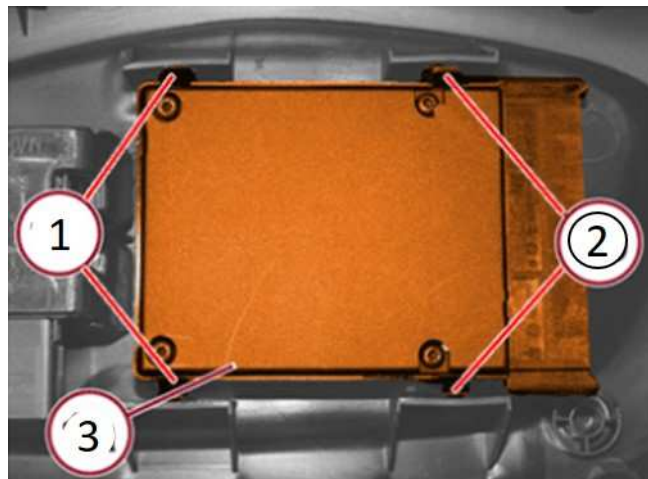

Fig. 4
5. Using a small flat bladed tool, release the tabs and remove the power seat switch from the seat side shield (Fig. 4) .
7. Transfer and install the power seat switch into the driver’s side seat trim (Fig. 4) .